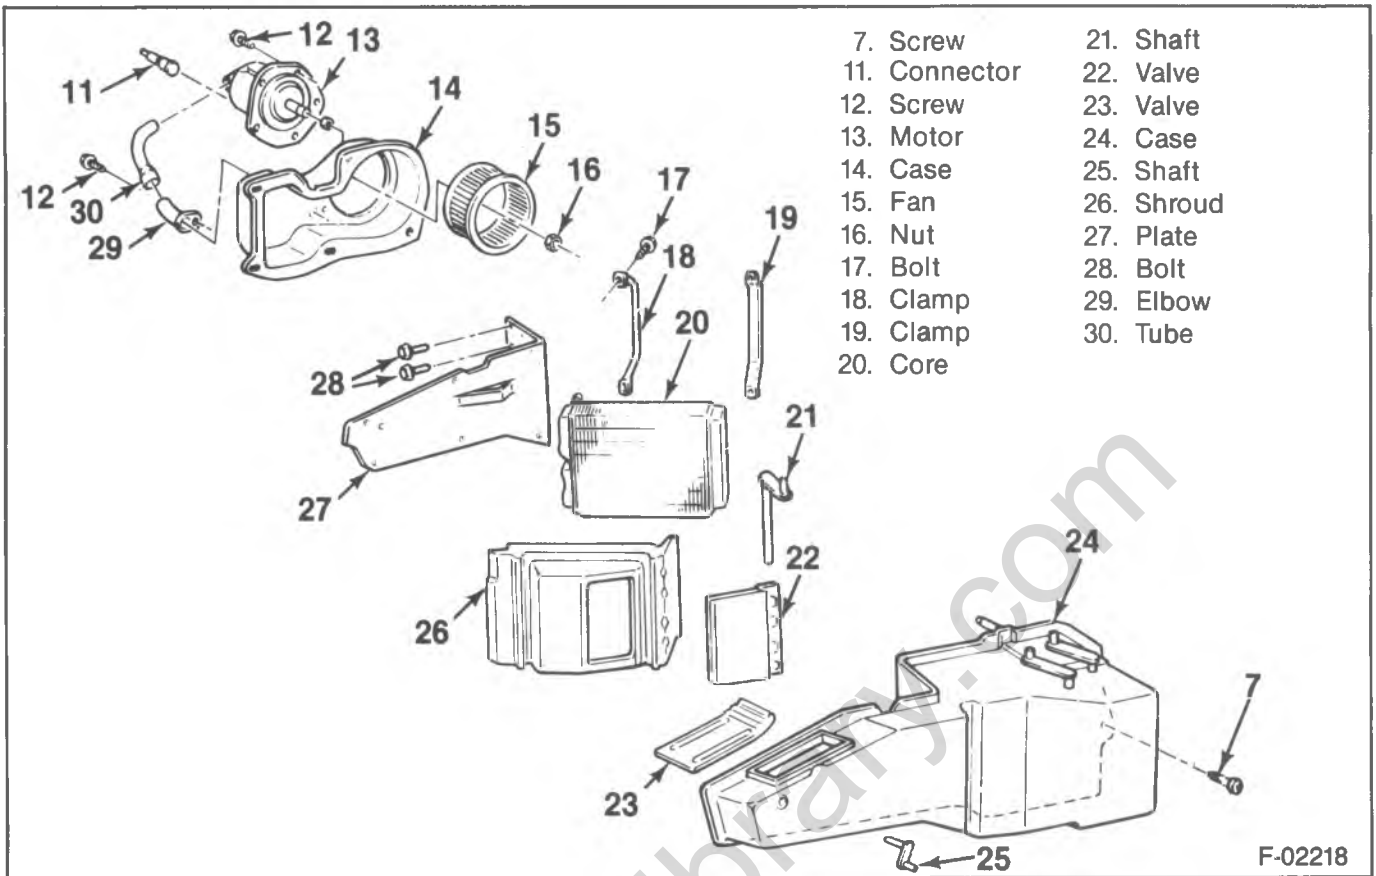

Figure 8—Blower Motor Assembly—Component View—R/V
3. Motor (13) and fan (15) assembly (figure 8).
4. Shaft nut (16).
5. Fan (15) from the motor (13).
↔ Remove or Disconnect (Figures 8 through 14)
2. Heater hoses (40 and 41) at the core tubes (20) (figures 8, 9, 10 and 11).
3. Screws (31) and nuts (24) from the studs (6) that project into the engine compartment (figures 8 and 12).
↔ Install or Connect (Figures 8 through 14)